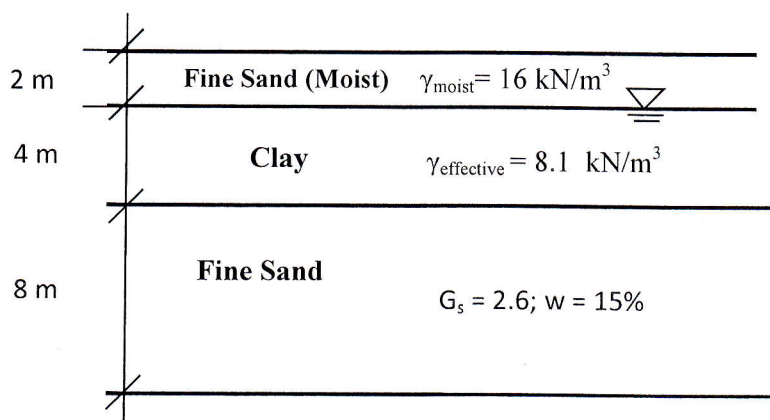

Figure 1
6. A 4 m thick clay layer is sandwiched between two sand layers, as shown in Figure 1. Calculate saturated unit weights of the soil layers existing below the ground water table. Draw the effective stress, total stress and pore water pressure diagrams up to a depth of 14 m below the ground level.